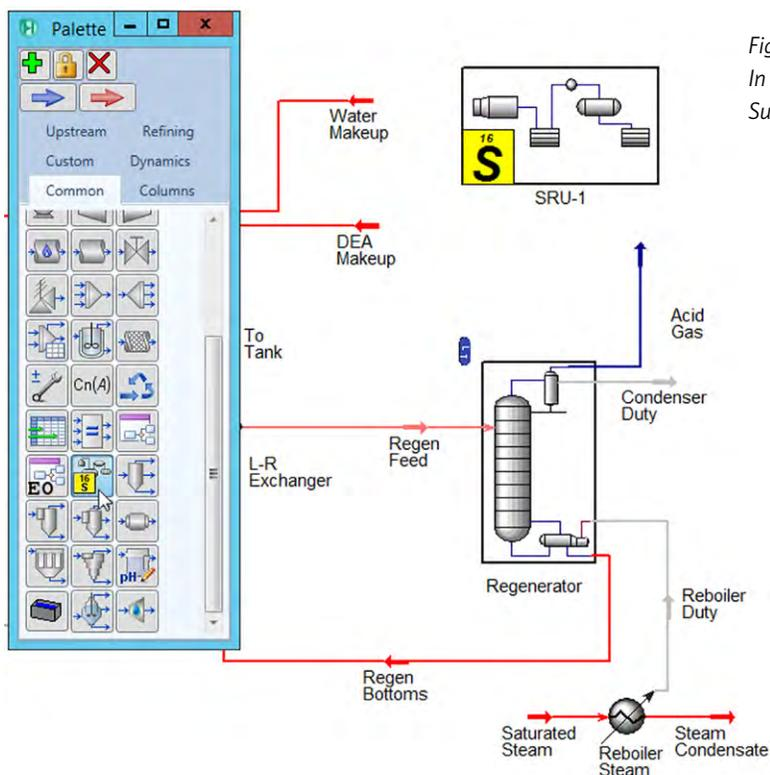

Figure 3:
- A specialized unit operations palette, including all previously available Sulsim unit operations, as well as some new operations introduced in this release (Figure 3)